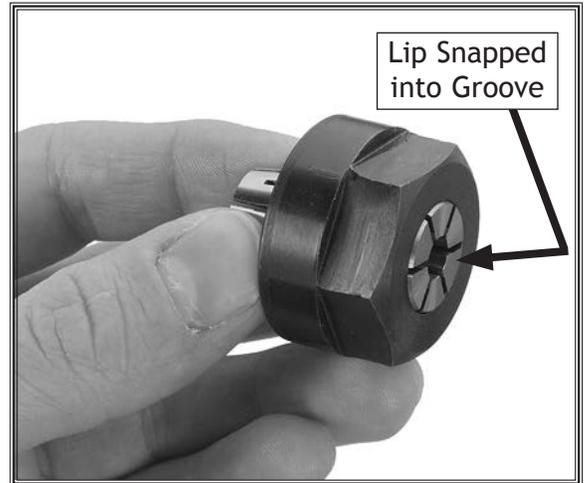

Figure 29. Router bit collet in collet nut.
2. Push collet into collet nut until off-center lip of collet nut snaps into collet groove. See **Figure 29**.